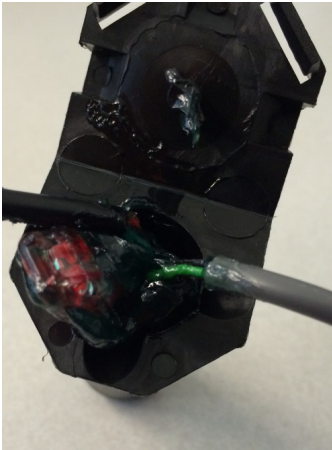

Figure 41 Splice Tube
- 1 Take all three connected Scotchloks and push into the splice tube until fully encapsulated by the silicone grease. See Figure 41.